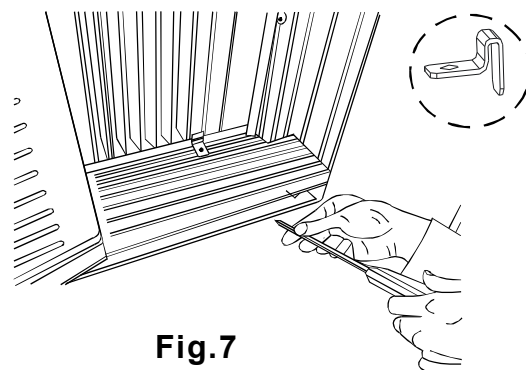

Fig.7
- A. Place the frame lock between the frame extensions and the window sill as shown(Fig. 7). Drive 3 / 4 " (19mm) or 1 / 2 " (12.7mm) locking screws through the frame lock and into the sill .